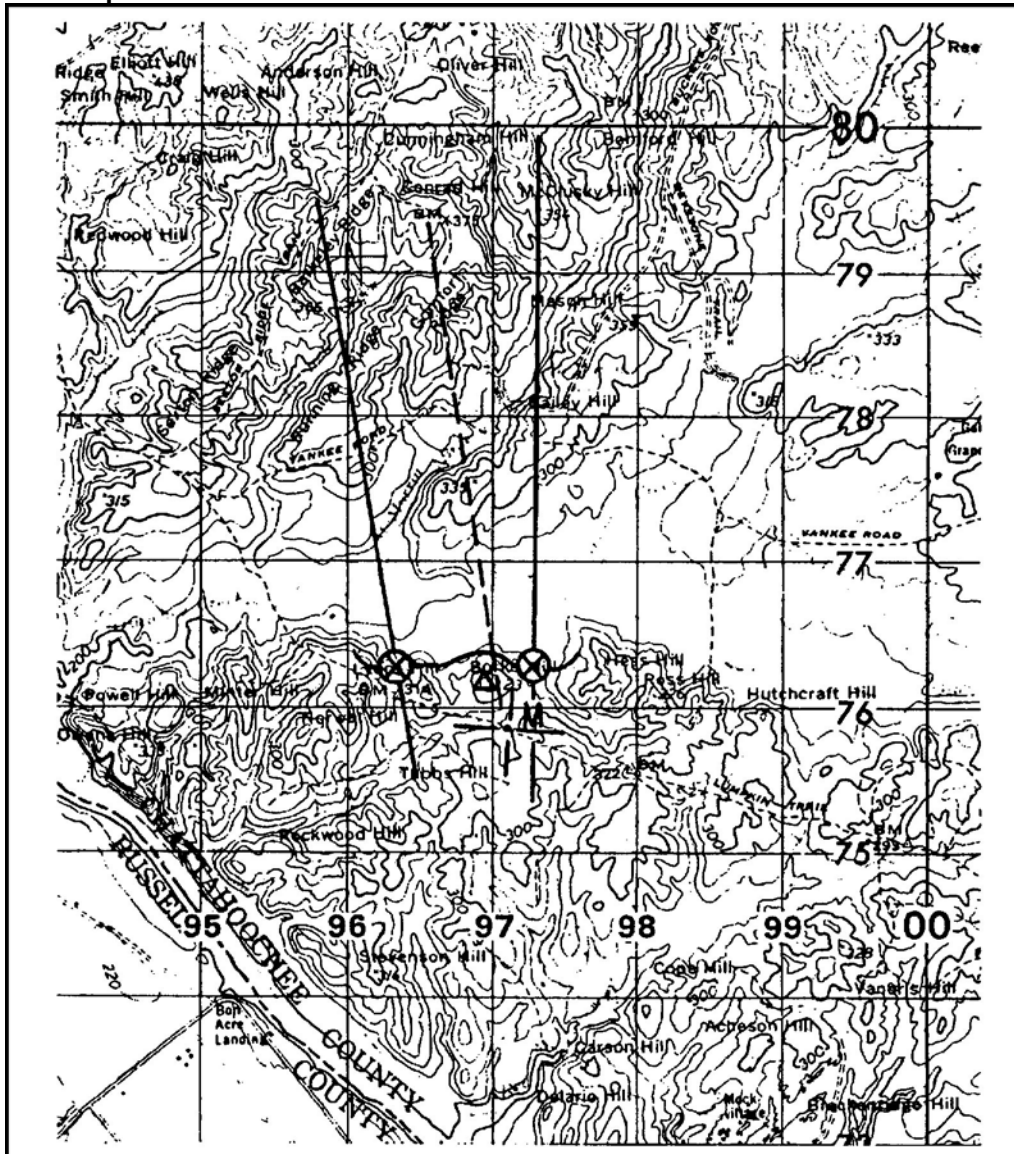

Figure 1. Sector of fire.
- a. Plot the left and right limits of the sector of responsibility on a map (if not done yet), and then plot a line through the exact center of this sector (Figure 1).
- (1) The center-of-sector line crosses a ridgeline, of which Hill 335 is a part (Figure 1). A wide valley appears before the line crosses high ground again at Comfort Ridge.
- (2) Only two areas are left to fire the marking round either on or short of Hill 335 or on Comfort Ridge.
- (3) Of these two areas, the marking round should be fired just short of Hill 335. Should the FO come back with "Cannot observe," the next round can be fired at Comfort Ridge.